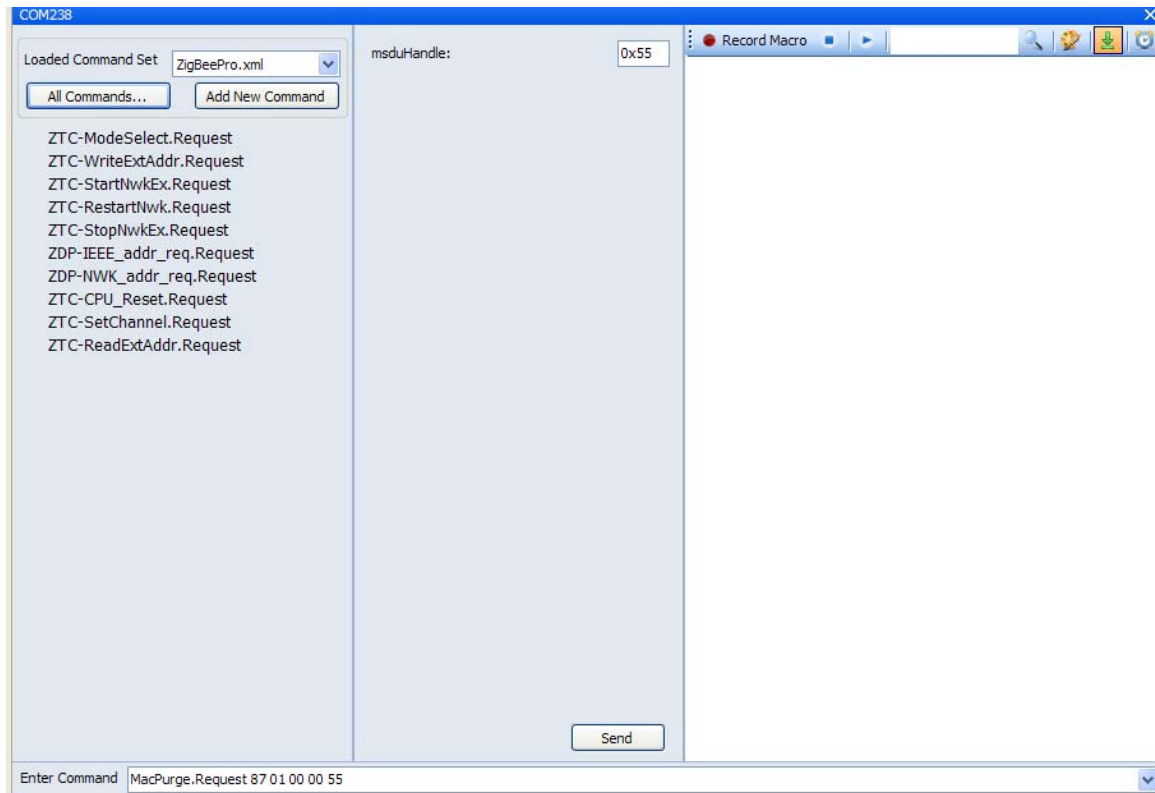

Figure 2-11. Command Console (MACPurge.Request Command)
5. As shown in Figure 2-11, the middle column of the Command Console view for the board now displays the parameters of the current command. In this case, the command is `MACPurge.Request` and the parameter is `msduHandle` with a value of `0x55`.